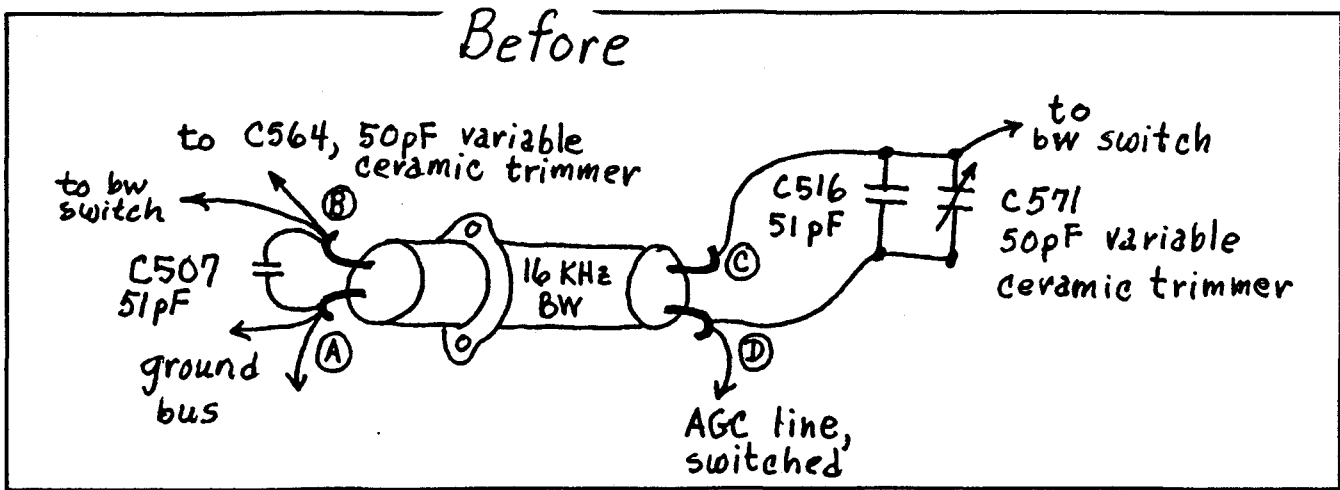
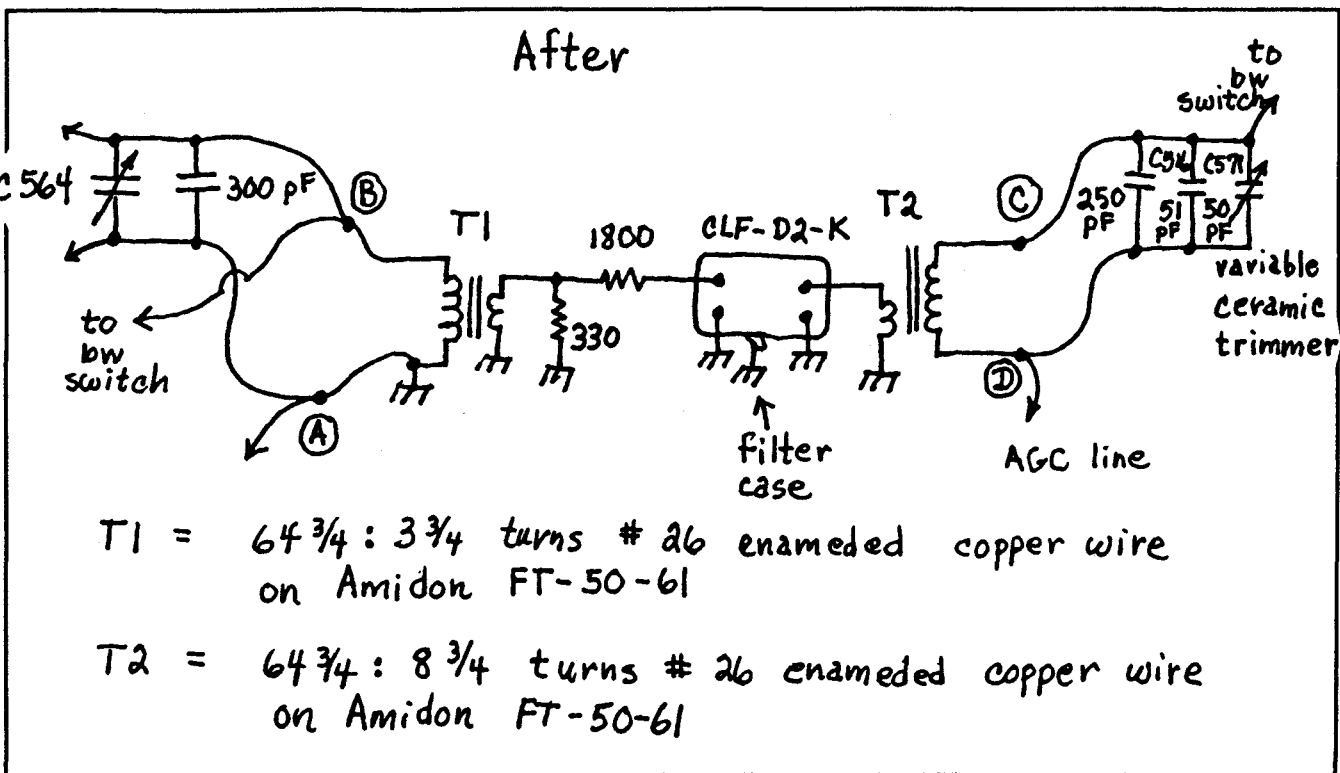

Figure 1
Figure 2
For a 3 KHz filter, I decided to use one of Kiwa Electronics (Craig Siegenthaler, 612 South 14th Avenue, Yakima, WA 98902, phone (509) 453-5492) CLF-D2-K filters. Putting this 3 KHz ceramic filter into an R-390A IF subchassis in place of the 16 KHz mechanical filter turned out to be a toughie. Two problems were encountered: reducing signal levels into the ceramic filter (the ceramic filter has much less loss than R-390A mechanical filters when properly impedance matched), and signal leakage. To equalize signal throughput, a resistor divider network was used ahead of the ceramic filter; see the "After" schematic - Figure 2. To eliminate signal leakage, a flange was fabricated from 0.015 inch copper sheet (copper gutter stock, available at sheet metal shops), tinned, and assembled with two etched PC boards so that the ceramic filter input and output pins were isolated from each other by the flange. The flange was made approximately the same size as an R-390A mechanical filter flange, so that the ceramic filter assembly could be bolted (just like an R-390A mechanical filter) into the vacated 16 KHz IF subchassis hole. The flange, with ceramic filter passing through it, also acts as an RF barrier to help shield the input and output impedance matching transformers T1 and T2 from each other.
As can be seen from the "Before" (Figure 1) and "After" (Figure 2) schematics, the 16 KHz mechanical filter was removed with C507 (51 pF) still attached to the mechanical filter pins. The other 51 pF fixed value (silver mica) capacitor was left in place, attached to the lugs of C571, the output 50 pF variable ceramic trimmer.
trimmer) to permit the primary of T1 to be tuned to resonance at 455 KHz using C564, and a 250 pF silver mica capacitor (actually 180 pF paralleled with 62 pF) was added (in parallel) to the lugs of C571 (the output 50 pF variable ceramic trimmer) to permit the primary of T2 to be tuned to resonance at 455 KHz using C571; see Figure 2.
the vacant mechanical filter hole, the remaining wires were attached (points A, B, C, and D on the schematics - Figures 1 and 2), and the 250 pF and 300 pF fixed silver mica capacitors installed at the lugs of the variable ceramic trimmers. To simplify installation, small pins about the same size as the mechanical filter pins were press-fitted and soldered to the two pairs of PC board pads at each end of the PC board. To conserve space, 330 ohm and 1800 ohm surface mount resistors were used (the PC board is laid out for surface mount resistors).
**51J-4 PRODUCT DETECTOR UPDATE** [Dallas Lankford] In *HSN #28* I remarked that I used a 2pF coupling capacitor from pins 6,7 of V110 to pin 7 of the 6BE6 (see Fig. 2 of that article) and an 8,200 ohm resistor from pin 7 of the 6BE6 to ground in order to equalize the audio levels between AM and SSB modes. Recently, after doing my fourth 51J-4 product detector modification, I found that in some 51J-4's, the 2 pF/8,200 ohm combination is not optimal. To achieve equalization of audio levels between AM and SSB modes for this fourth 51J-4, a variable 1-10 pF ceramic trimmer was used, and the required value turned out to be about 4 pF. Apparently there is enough variation from one 51J-4 to another to make it desirable to use a variable 1-10 pF ceramic trimmer in place of the fixed 2 pF ceramic capacitor so that audio levels between AM and SSB can be equalized.